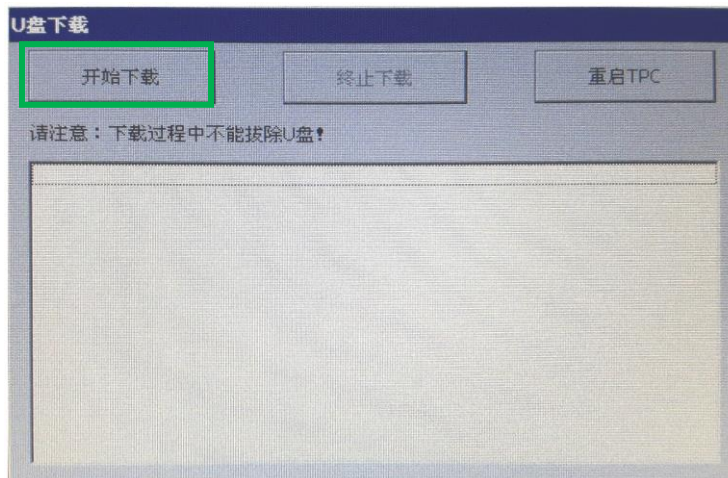
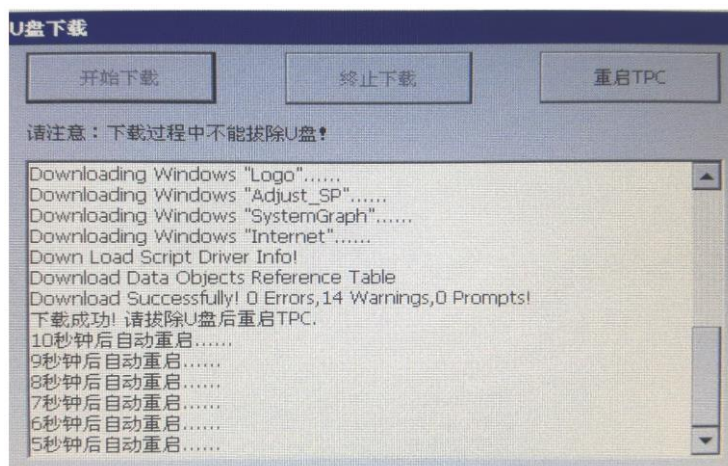

Fig. 5
Fig. 6
7. Then press the button on the upper left side (Fig. 5) to start the firmware update (Fig. 6):